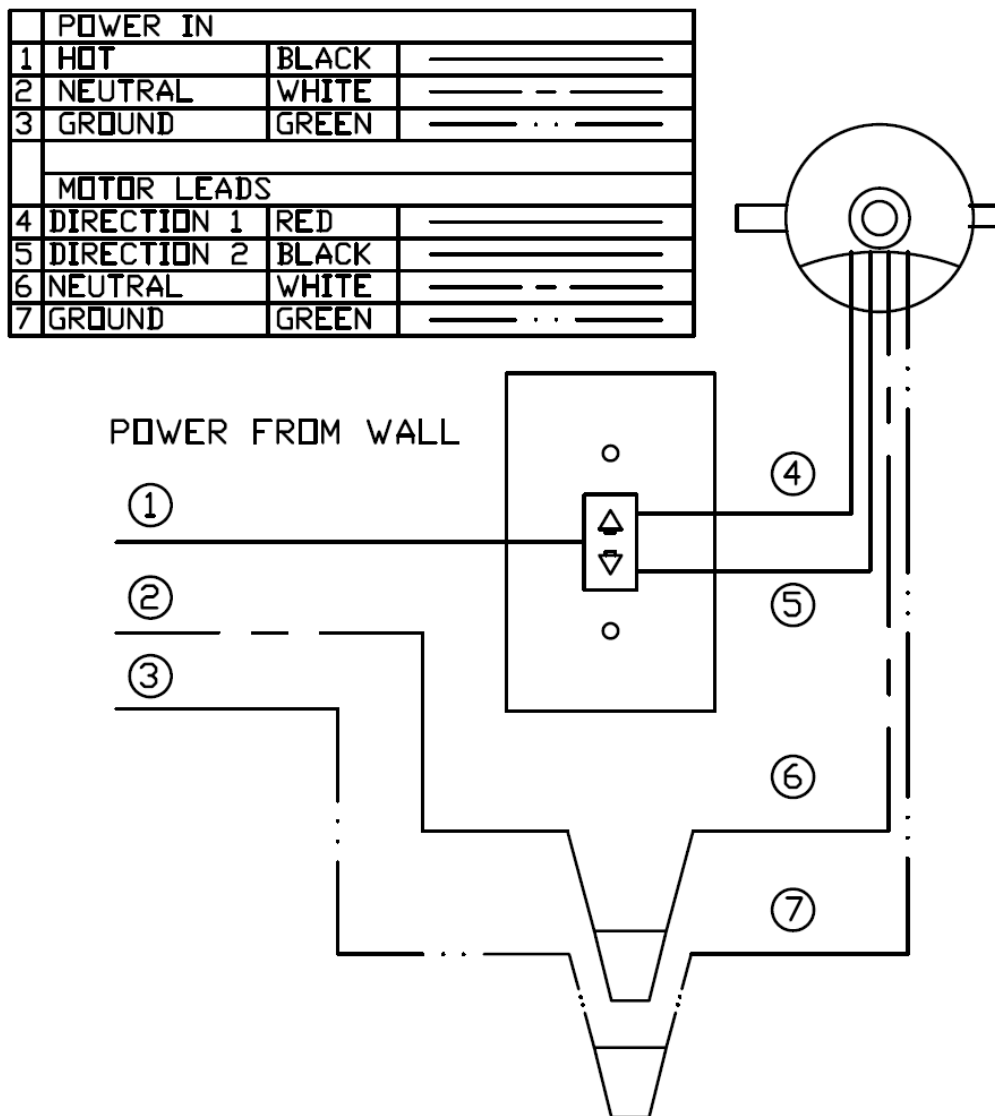

FIGURE 6
STEP 2. Wire the motor and incoming 120 VAC +/- 5% line to the control station (See Fig. 6).